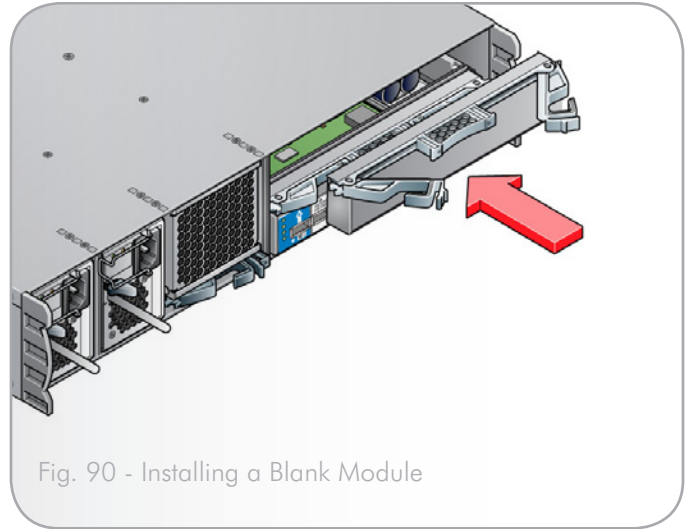

Fig. 90 - Installing a Blank Module
1. With the latches in the open position (see Fig. 90), place the blank module into the enclosure open bay and press in until the latches engage.